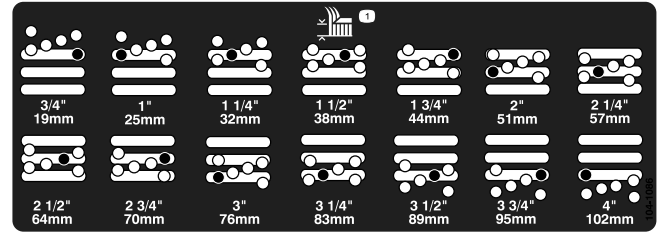

Figure 19
4. While supporting the chamber, remove the spacer (Figure 19).
5. Move the chamber to the desired height of cut and install a spacer into the designated height-of-cut hole and slot (Figure 19).